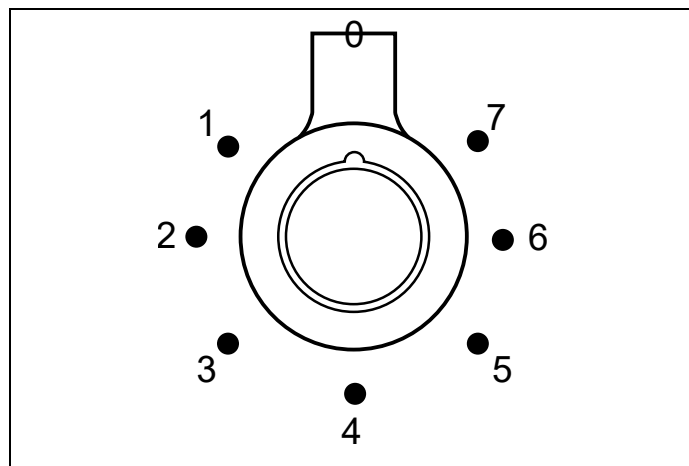

Fig. 20
- Press the knob (Fig. 20 ) and turn it counterclockwise to the setting required.